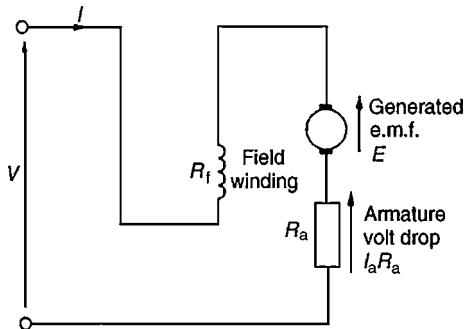

Figure 22.20
In the series-wound motor the field winding is in series with the armature across the supply as shown in Fig. 22.20.
For the series motor shown in Fig. 22.20,
- (a) With reference to Fig. 22.20, generated e.m.f.,  $E_1$  at initial load, is given by